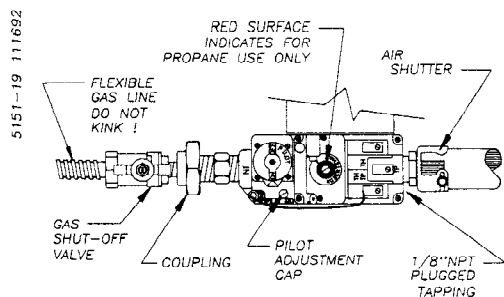

Figure 20
The gas control valve is secured to the fire box bottom underneath the front ledge. One (1) 1/8" NPT plugged tapping is provided on the Gas Control Valve for a test gauge connection located underneath the valve itself (see Figure 20).